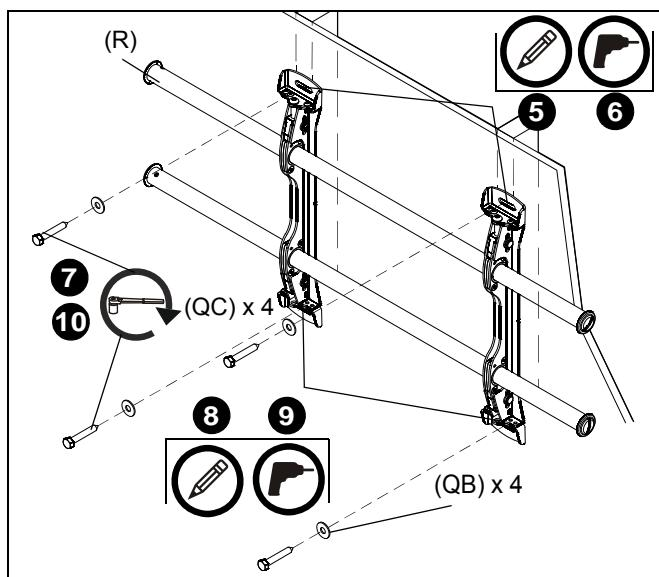

Figure 3
- Using a level, mark the wall on each stud to attach the mount through the upper mounting slots. (See Figure 3)
7. Use two 5/16 x 2-1/2" lag bolts (QC) and two 5/16" flat washers (QB) to attach top of mount (R) to wall. (See Figure 3)
8. Mark the attachment points for the lower mounting slots, making sure the attachment points are located on the studs. (See Figure 3)
9. Drill 7/32" pilot holes at markings for lower mounting holes. (See Figure 3)
10. Use two 5/16 x 2-1/2" lag bolts (QC) and two 5/16" flat washers (QB) to attach the mount to the wall through the lower mounting holes. (See Figure 3)